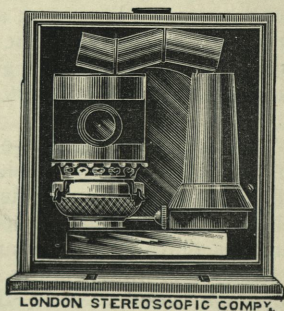

Fig. 3.
refixed on the lower studs, so that the base is made perfectly rigid. The sliding body A (Fig. 1) is then pulled right out, and the lamp and chimney (as shown in Fig. 3) removed. The sliding body is at once replaced, and the lamp fitted together and slipped into the grooves (BB) provided on the rear baseboard. The cistern of the lamp should be nearly filled with the best kerosine or other good mineral oil, and the wicks carefully adjusted to the same height. The lamp must then be lighted, and allowed to burn for ten minutes or so ; this is necessary, as on first lighting the lamp the condensers will be covered with moisture, which will disappear as soon as they are thoroughly warm. While this warming process is going on, a drawing board, preferably covered with white paper, and of sufficient size to hold the sensitive plate or paper, should be fixed upon an easel, or hung upon the wall of the dark room in such a position as to be exactly parallel with the front of the apparatus, and at such a height as will bring the centre of the paper, when in position, exactly opposite the centre of the lens.